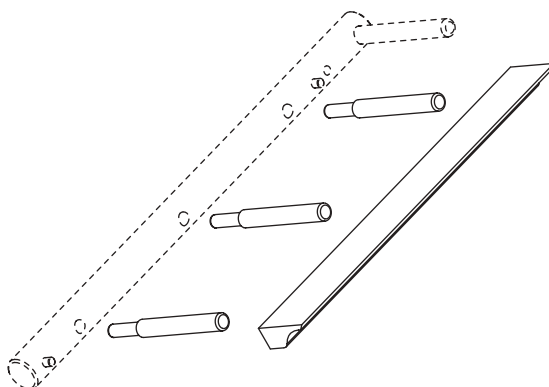

Figure 19
2. Place scraper and support posts in COP tank (**Figure 19**).